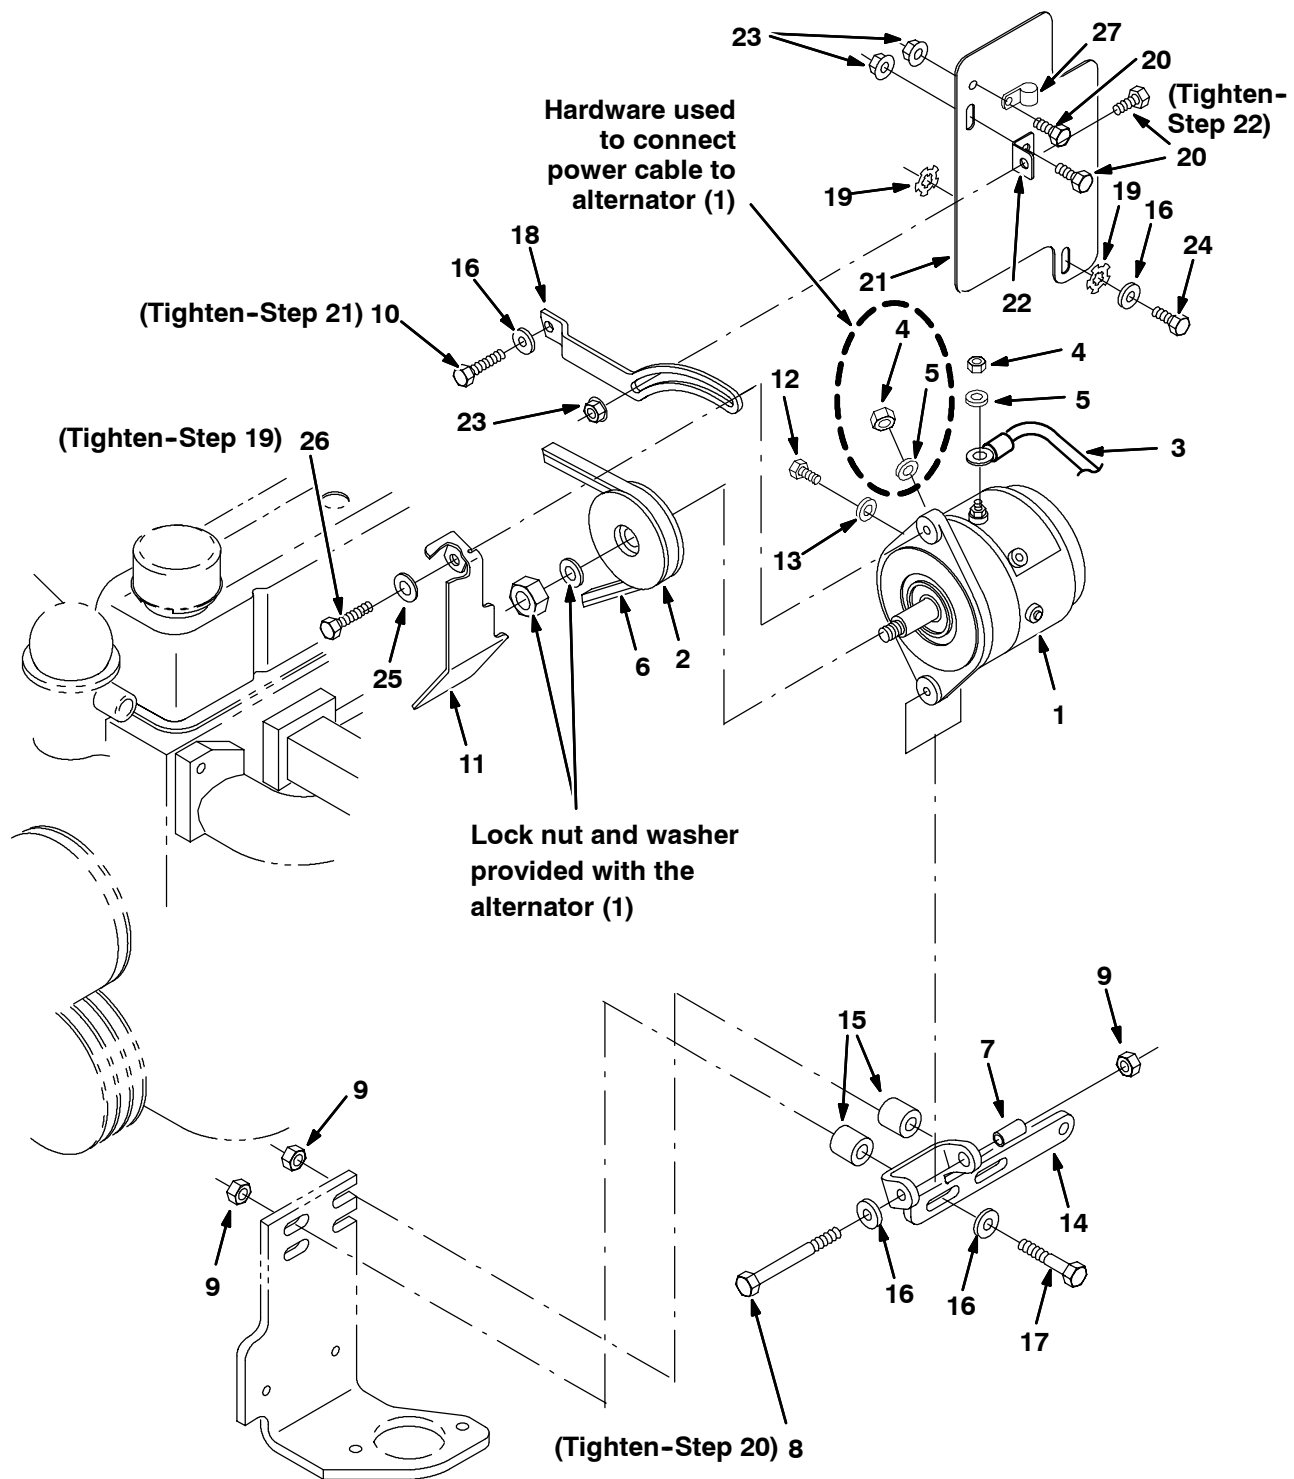

FIG. 1
(Refer to FIG. 1 for locations of all parts installed in this instruction bulletin)
9. Use the lock nut and washer provided with the new alternator (1) to install the new sheave (2) onto the new alternator.
10. Install the hex screw (12) and lock washer (13) onto the alternator (1).
11. Use a hex screw (20) and a hex nut (23) to loosely mount the heat shield angle (22) to the the heat shield plate (21).
12. Use a hex screw (24), a flat washer (16) and two lock washers (19) to mount the heat shield plate (21) onto the machine.
13. Use a hex screw (26) and a belleville washer (25) to mount the new alternator guard bracket (11) and the new alternator arm (18) onto the new alternator (1).
14. Use a hex screw (10) and a flat washer (16) to loosely mount the stationary end of the alternator arm (18) to the machine.
15. Use a hex screw (20) and a hex nut (23) to loosely mount the alternator arm (18) to the the heat shield angle (22).
16. Use two hex screws (17), two flat washers (16), sleeve bushings (15), and two lock nuts (9) to mount the new alternator mounting bracket (14) to machine.
17. Press the alternator sleeve (7) into the alternator mounting bracket (14). Use the alternator (1) to guide the alternator sleeve (7) into the alternator mounting bracket (14).
18. Use a hex screw (8), a flat washer (16), the alternator sleeve (7), and a lock nut (9) to loosely mount the new alternator (1) to the alternator mounting bracket (14).
19. Install the new V-belt (6) onto the three sheaves. Pull the alternator (1) away from the engine until the V-belt (6) is tight and tighten hex screw (26). Refer to reference in Fig. 1.
20. Tighten hex screw (8) holding the alternator (1) to the alternator mounting bracket (14). Refer to reference in Fig. 1.
21. Tighten hex screw (10) holding the alternator arm (18) onto the machine. Refer to reference in Fig. 1.
22. Tighten the hex screw (20) and hex nut (23) holding the heat shield angle (22) onto the heat shield plate (21) and the hex screw (20) and hex nut (23) holding the alternator arm (18) onto the heat shield angle (22). Refer to reference in Fig. 1.
23. Use a hex nut (4) and a washer (5) to install the ground wire (3) onto the alternator (1). Connect the loose end of the ground wire (3) to a ground stud.
24. Use a hex nut (4) and a washer (5) to connect the power wire to the alternator (1).
25. Secure the wiring from the engine inside cable clamp (27) and use a hex screw (20) and hex nut (23) to secure the cable clamp (27) onto the heat shield plate (21).